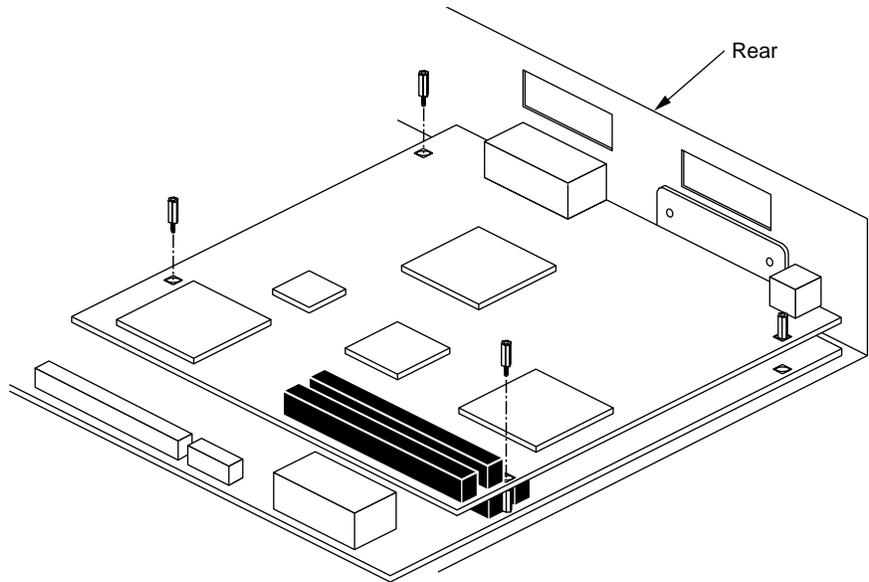

Figure 2-7 Removing the Standoff Screws From the Z Board
4. Using an open-ended wrench, remove the standoff screws from the Z board, as shown in Figure 2-7.